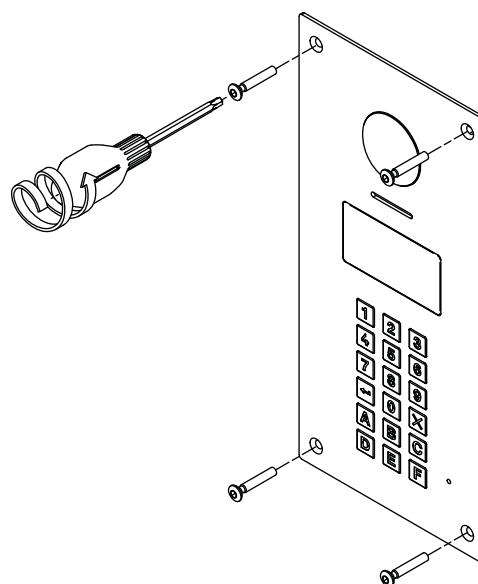

Fig. 5
3. Fix the plate to the flush mounting box using the screwdriver provided (torx end) and the pin machine torx screws (**Fig. 5**).